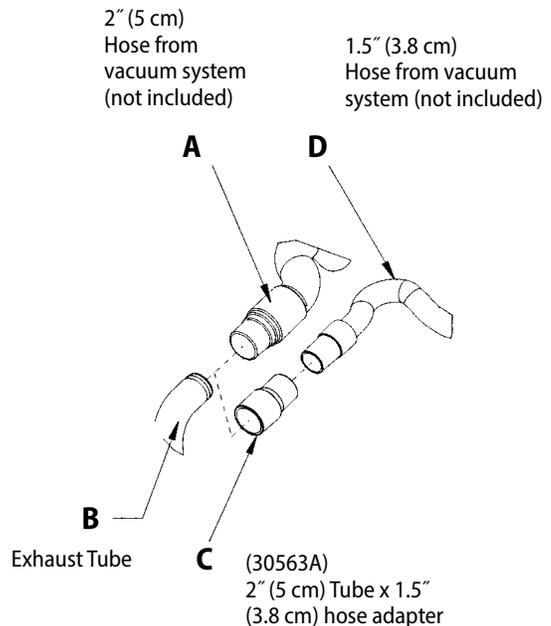
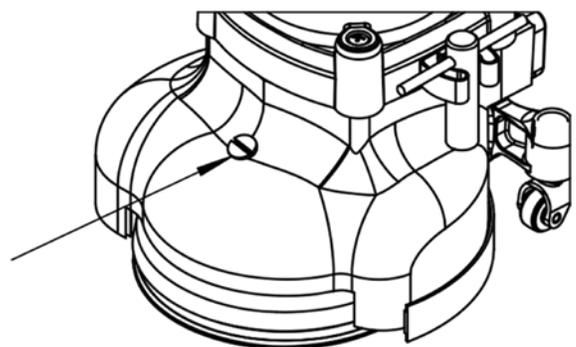

Figure 1
Figure 9
- 1 Install 2" (5 cm) hose end (Figure 1, A) directly over the exhaust tube (Figure 1, B).
- 1 Install the 2" (5 cm) x 1 1/2" (3.8 cm) hose end adapter (Part No. 30563A) (Figure 1, C) over the exhaust tube (Figure 9, B).
- 2 Insert 1 1/2" (3.8 cm) hose end (Figure 1, D) into the adapter (Figure 1, C).
To clean the ventilation opening in the center of the plug, remove the plug from the machine. With the plug removed, also inspect the grease in the gearbox. See Figure 9.